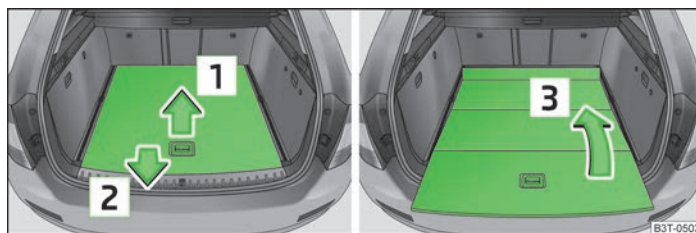
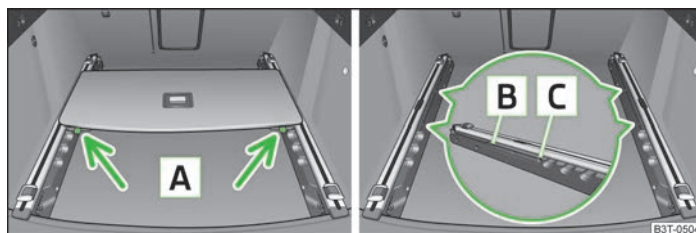

Fig. 74 Boot: Fold up variable loading floor
Fig. 75 Boot: remove variable loading floor
- Grasp the rear part of the floor by the handle, raise it slightly in the direction of the arrow **1** » Fig. 74 and pull it out over the bumper in the direction of the arrow **2** until it engages in the opening **C** » Fig. 75.
- Fold up the loading floor by moving it in the direction of the arrow **3** » Fig. 74.
- Press the safety buttons **A** » Fig. 75 and remove the floor.
- Push the floor forwards until it engages in the openings **B** in the carrier rails » Fig. 75.